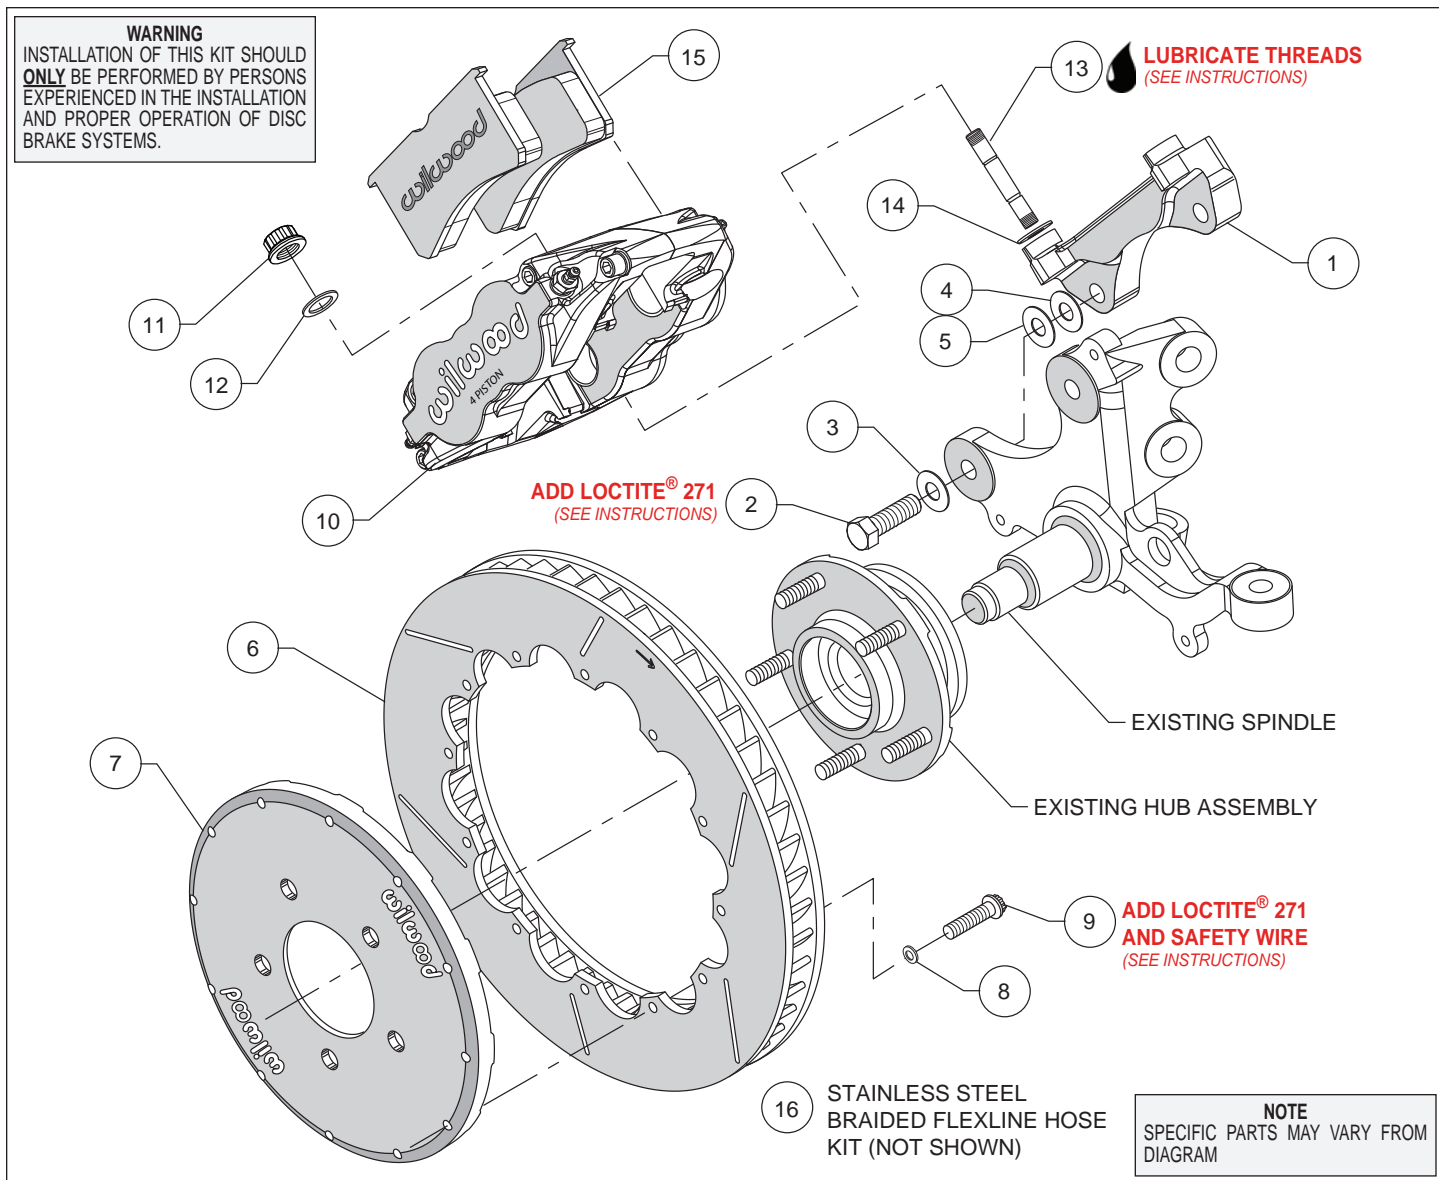
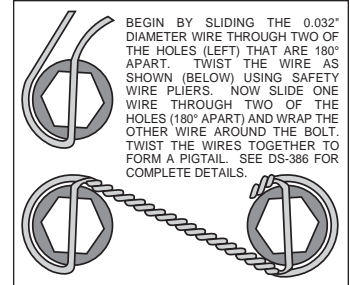

Figure 1. Typical Installation Configuration
Figure 3. Safety Wire Diagram
### Assembly Instructions (numbers in parenthesis refer to the parts list and Figure 1 on the preceding page):
- The caliper mount bracket (1) should initially be installed with clean, dry threads on the mounting bolts. Orient the bracket as shown in Figure 1, and install using bolts (2) and washer (3). Initially place one .033 thick shim (4) on each bolt between the bracket and upright, Figure 1. Temporarily tighten the mounting bolts. Later, after the caliper alignment has been checked, the mount bolts will be secured using red *Loctite*® 271.
- Orient the rotor (6) and the hat (7) as shown in Figure 1 and Photo 1. Attach rotor to hat using bolts (9) and washers (8). Using an alternating sequence, apply red *Loctite*® 271 to the threads, and torque to 155 **in-lbs**. Safety wire bolts using standard 0.032 inch diameter stainless steel safety wire as shown in Figure 3. Refer to Wilwood's data sheet DS-386 (available at [www.wilwood.com/Pdf/DataSheets/ds386.pdf](http://www.wilwood.com/Pdf/DataSheets/ds386.pdf)) for complete safety wire installation instructions.
- NOTE:** This kit contains distinct right and left hand calipers that must be mounted in a specific direction, as described below. Lubricate the caliper mounting studs (13) with lightweight oil. Initially place one .035" thick shim (14) on each stud as shown in Figure 1 and Photo 2. Mount the caliper (10) onto the bracket (1) using lock nuts (11) and washers (12), Figure 1. Ensure that the caliper is mounted so that the largest pistons are at the rotor exit end of the caliper, in relation to the direction of rotor rotation. Temporarily tighten the lock nuts and view the rotor through the top opening of the caliper. The rotor should be centered in the caliper, Photo 3. If not, adjust by adding or subtracting shims (4 and/or 5) between the bracket and the upright. Always use the same amount of shims on each of the two mounting bolts. Once the caliper alignment is correct, remove the bracket mounting bolts one at a time, apply red *Loctite*® 271 to the threads, and torque to 60 ft-lbs.